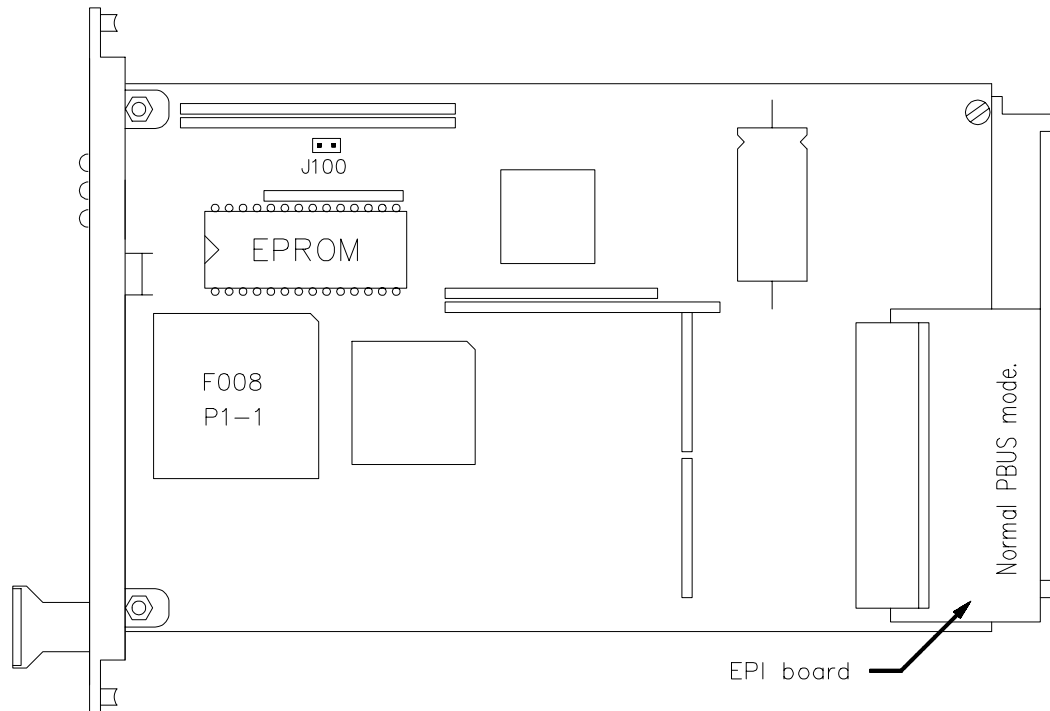

Figure 6 EPROM and EPI board position on P-bus communication board of 10008/3/P module
- EPROM (512 kbit) for the P-bus communication program (see Figure 6),